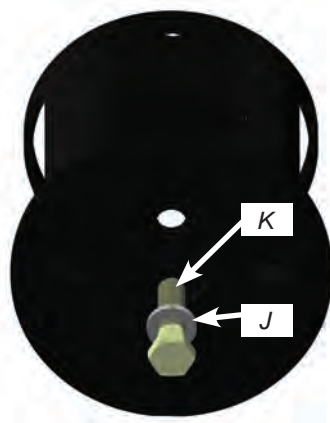

fig. 7
2. Insert long bolt (K) with lock washer (J) through the upper bracket center mounting hole (fig. 7). Retain the bolt to the upper bracket (figs. 8 and 9) using push nut (D).